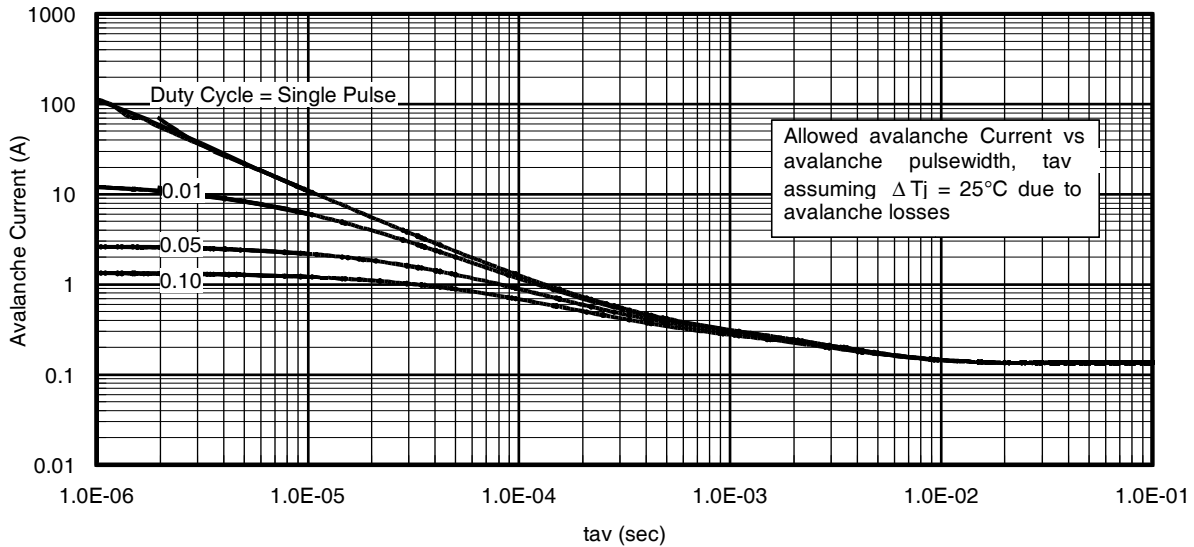

Fig 14. Typical Avalanche Current Vs. Pulsewidth
- ① Repetitive rating; pulse width limited by max. junction temperature.
- ② Starting $T_J = 25^\circ\text{C}, L = 1.62\text{mH}, R_G = 25\Omega, I_{AS} = 11A$.
- ③ Pulse width $\leq 400\mu s$; duty cycle $\leq 2\%$.
- ④ R_{θ} is measured at T_J of approximately 90°C .
- ⑤ Limited by T_{jmax} . See Figs. 14, 15, 17a, 17b for repetitive avalanche information.
Notes on Repetitive Avalanche Curves , Figures 14, 15:
7. ΔT = Allowable rise in junction temperature, not to exceed T_{jmax} (assumed as 25°C in Figure 14, 15).